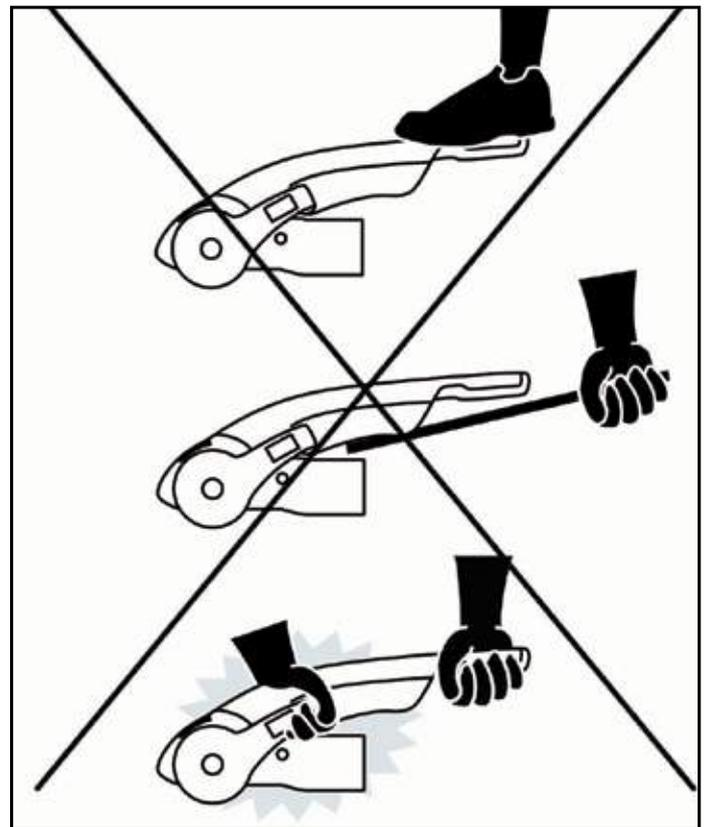

Fig 6.
- 2) Press stabiliser lever down by hand force only DO NOT use your foot or an extension bar, this will damage the components (Fig. 6).
- 3) When opening or closing the stabiliser lever, please ensure your hand does not touch the coupling handle - you may accidentally trap your fingers! (Fig. 6).